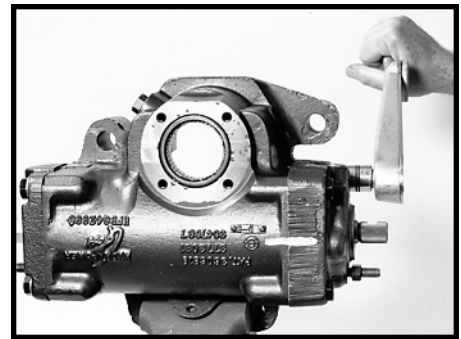

Figure 135
28. Install the four valve housing bolts (1), 2.13 inch (54.0 mm) long, into the valve housing (9) Torque them to 105-115 ft. lbs. (142-156 N m) if dry or 75-85 ft. lbs. (102-115 N m) if lubricated. SEE FIGURE 135.